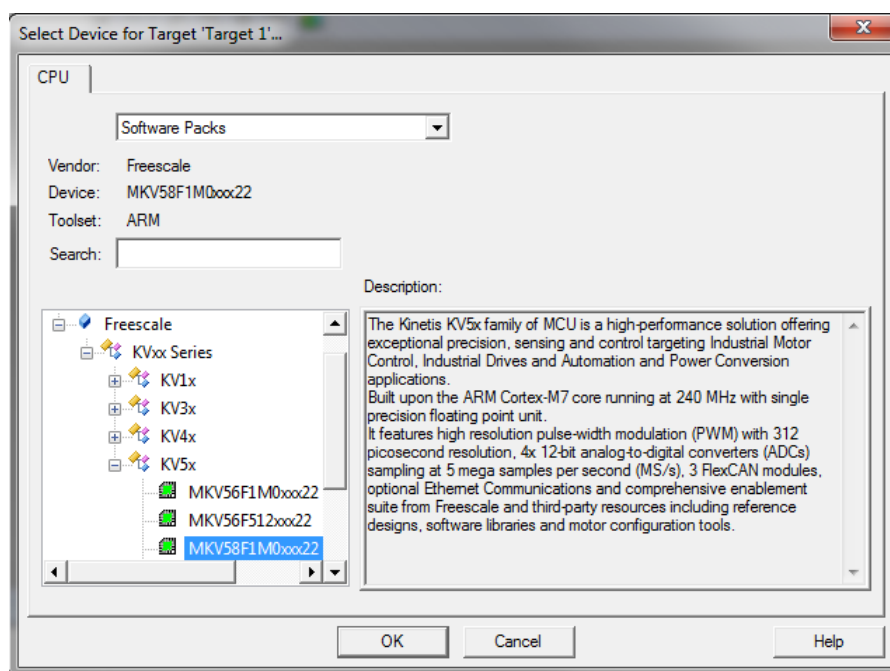

Figure 1-16. Select Device dialog
7. Click the MKV58F1M0xxx22 node, and then click OK. See Figure 1-16.